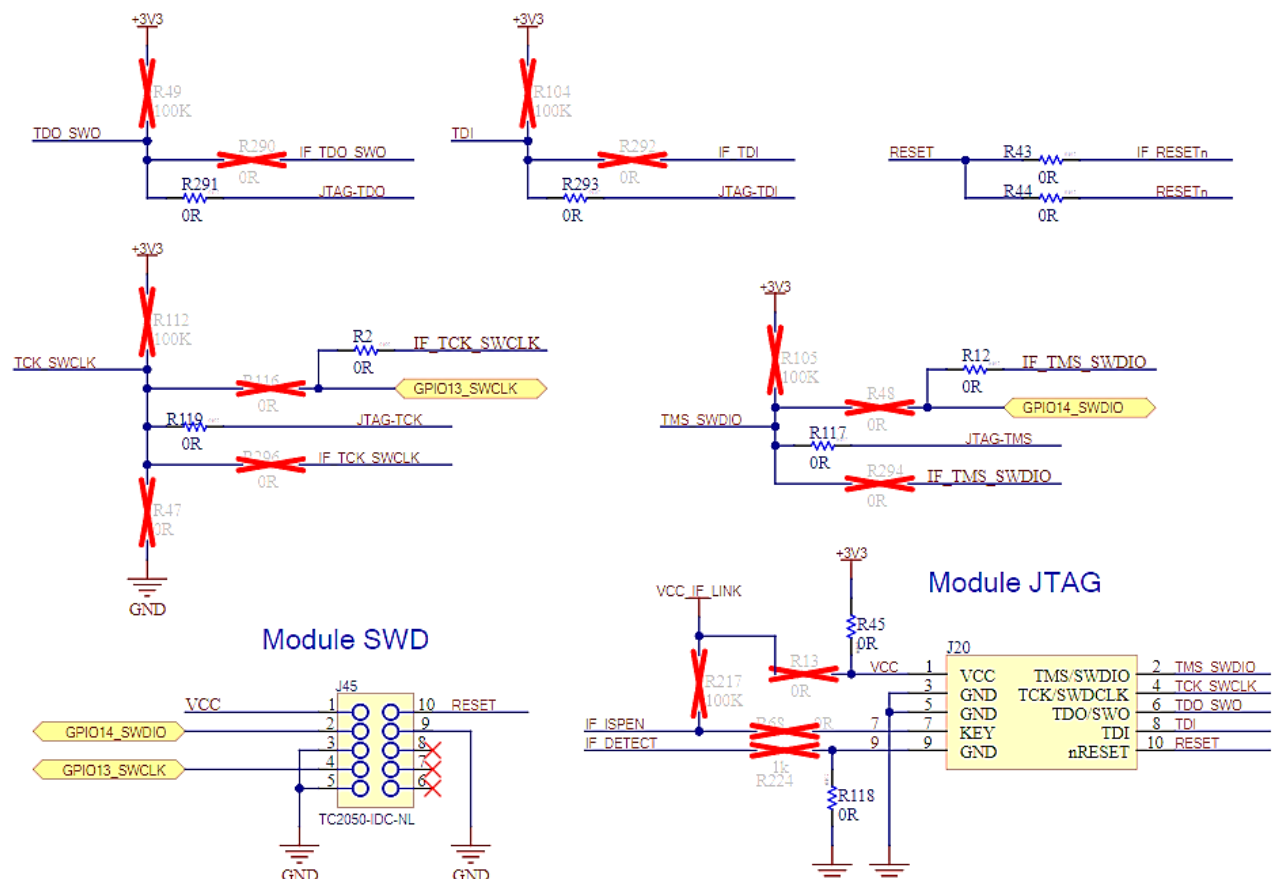

Figure 18: SWD/JTAG multiplex connections
- To enable the **SWD** interface on the **J20** JTAG connector, remove resistors **R2** and **R12**, and install 0 Ω, 0402 resistors on **R48** and **R116**, as shown in Figure 18.
The SWD/JTAG multiplex connections and default jumper positions are shown in Figure 18.